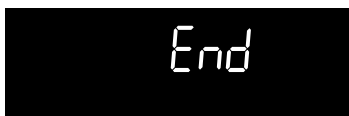

Fig. 1
1. **END** will appear in the display window and the oven will shut-off automatically (See Fig. 1)